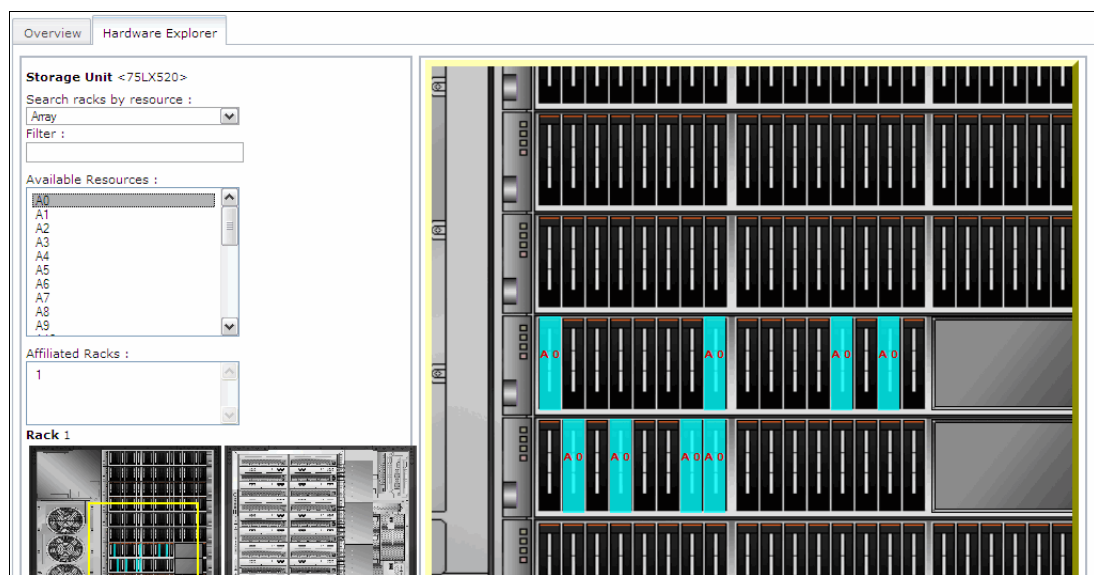

Figure 13-70 View arrays
- To check where the physical disks of arrays are located, change the search criteria to **Array** and, from the **Available Resources** section, click one or more array IDs that you want to explore. After you click the array ID, the location of each DDM is highlighted in the rack image. Each disk has an appropriate array ID label. Use your mouse to move the yellow box in the rack image on the left to the desired location across the DS8000 front and rear view to view the magnified view of this section as shown in Figure 13-70.